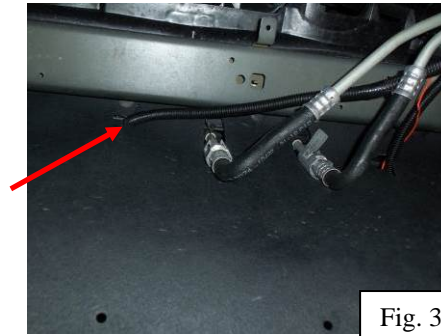
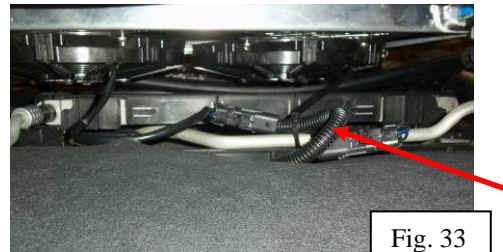

Fig. 32
Fig. 33
24. Route the fan leads through the center hole in the rubber air deflector (Fig. 32). Connect the weatherpack plugs from the harness to the ones on the fans. The order does not matter. Zip tie the wires out of the way (Fig. 33).